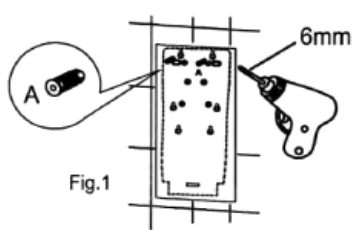

Fig.1
2. Drill two holes dia. ϕ 6mm, insert plastic dowels . (Fig. 1)